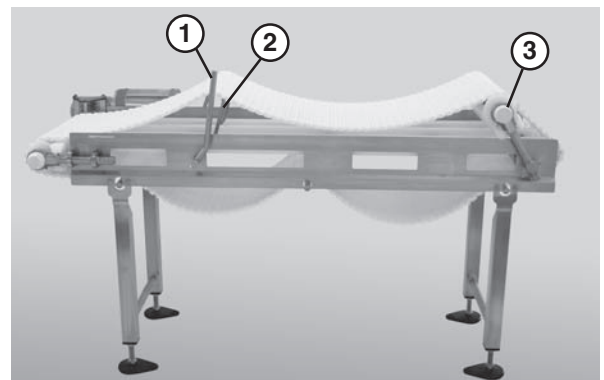

Figure 40
2. Use the lifter handle (**Figure 40, item 1**) to raise the lifters (**Figure 40, item 2**) and raise the tip up tail (**Figure 40, item 3**).